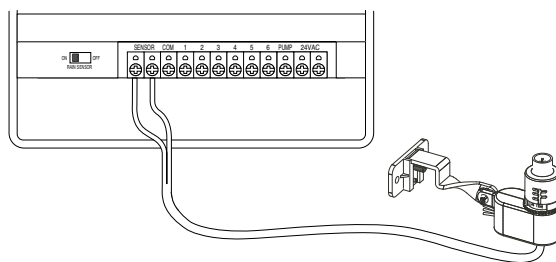

Figure 20: Connecting the Rain Sensor
- Connect the rain sensor wires to the wiring terminal ports (two) marked 'sensor' [See Figure 20].